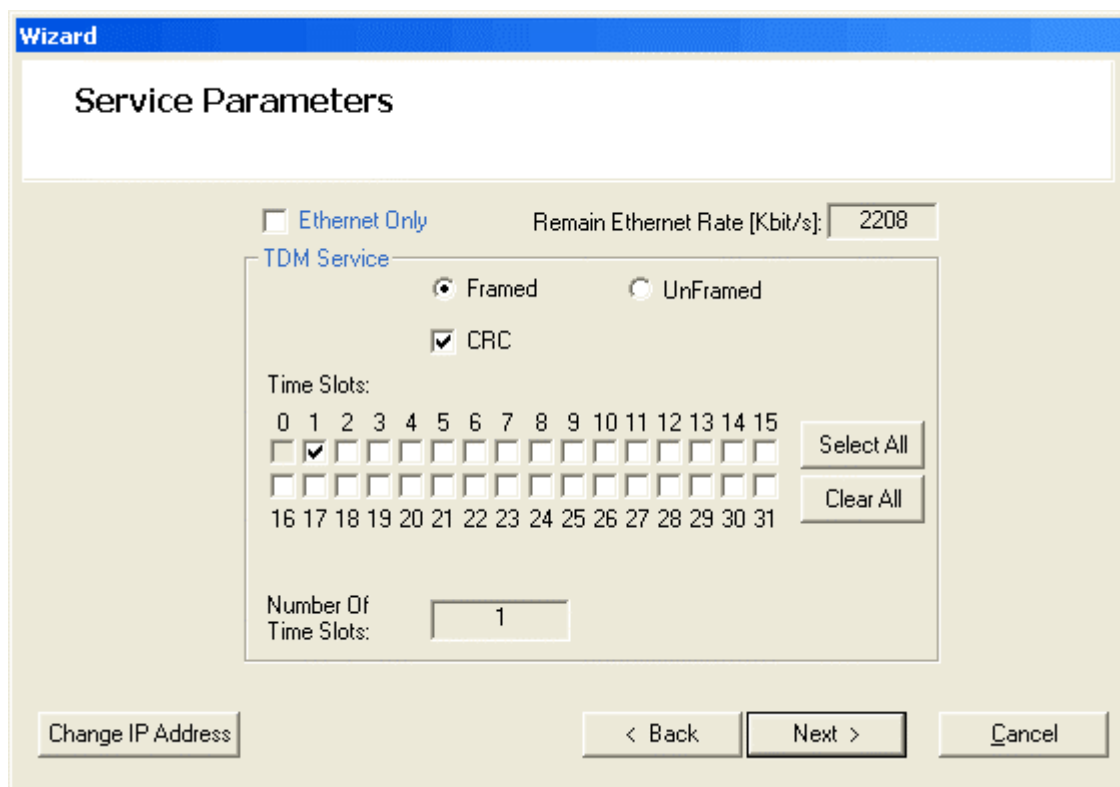

Figure 2-5. Service Parameters Dialog Box
The Service Parameters dialog box appears (see *Figure 2-5*).
5. The Service Parameters dialog box appears (see Figure 2-5).